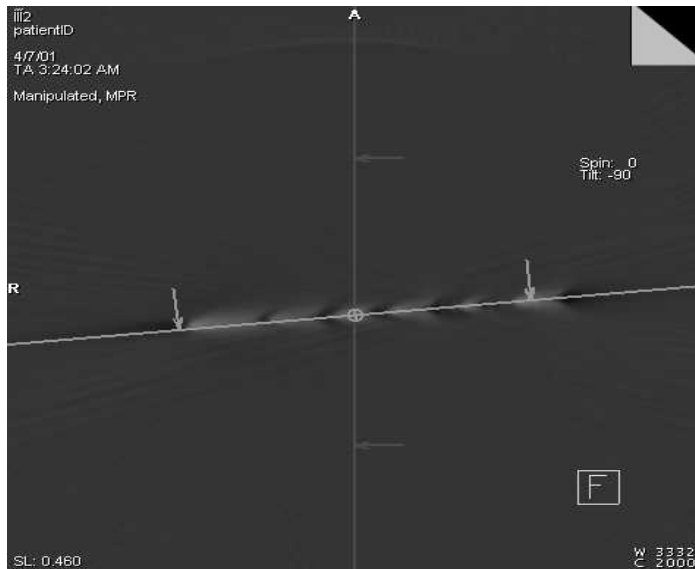

Fig. 16 Rotating the slice plane.
- A syngo image should display a plane parallel to the lead strip test pattern (see Fig. 16).